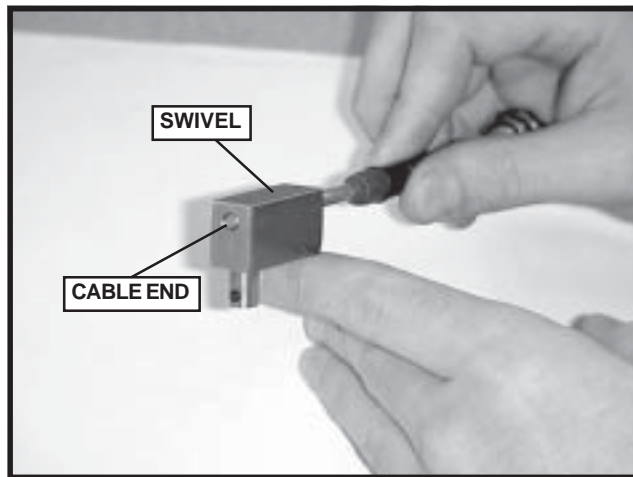

FIGURE 11
1. Thread the new end onto the cable approximately to the same location as the old swivel. Repeat on other side. See Figure 11.